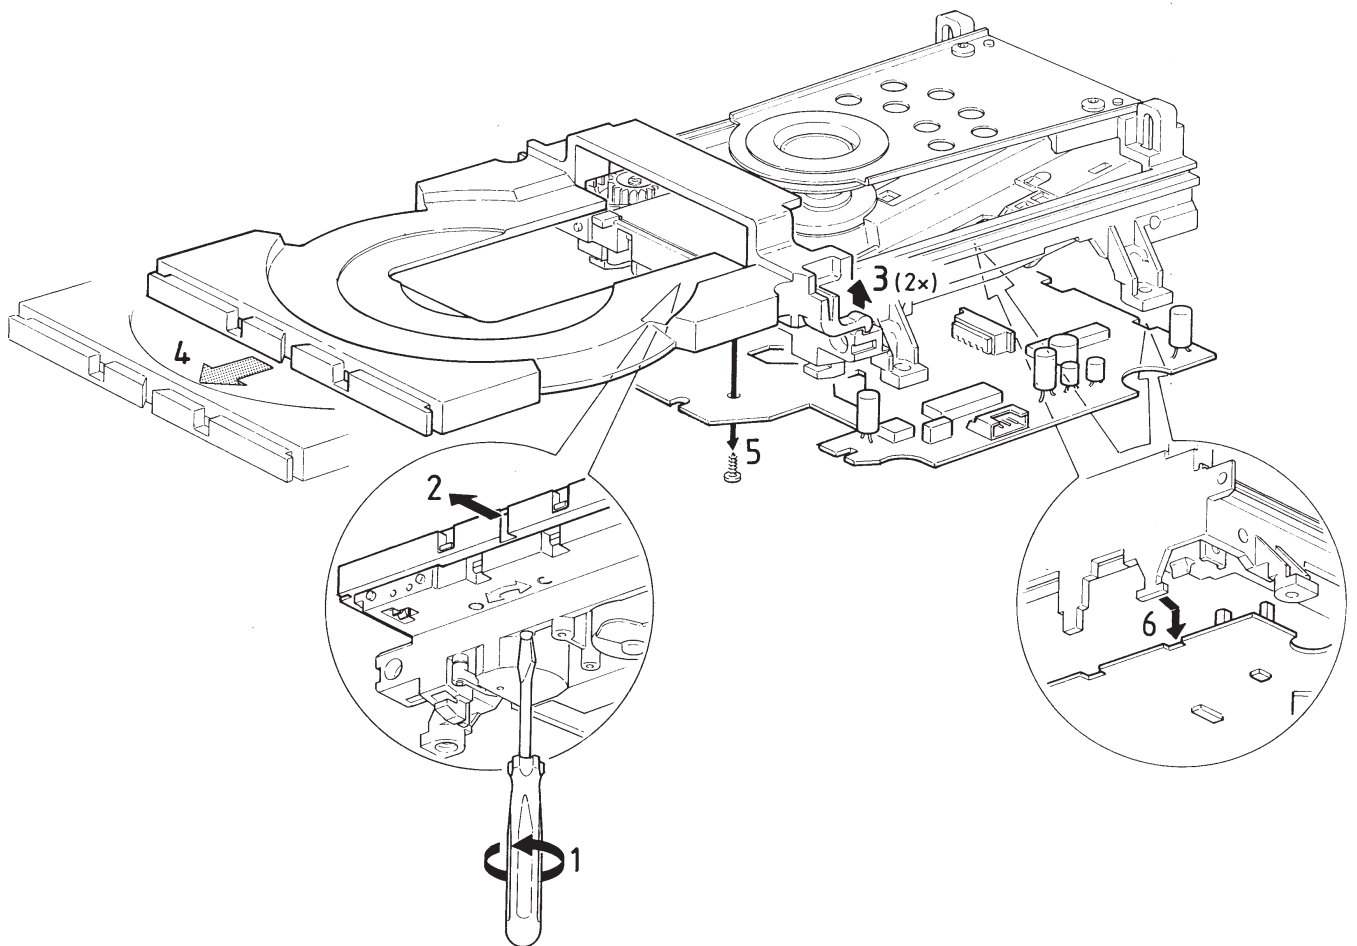

Fig. 1
- a) Press open/close button to open the tray. If the tray doesn't work, use a small screwdriver as shown in Fig.1 step 1 to move the tray outside. After the first centimetre it is possible to pull the tray out by hand.